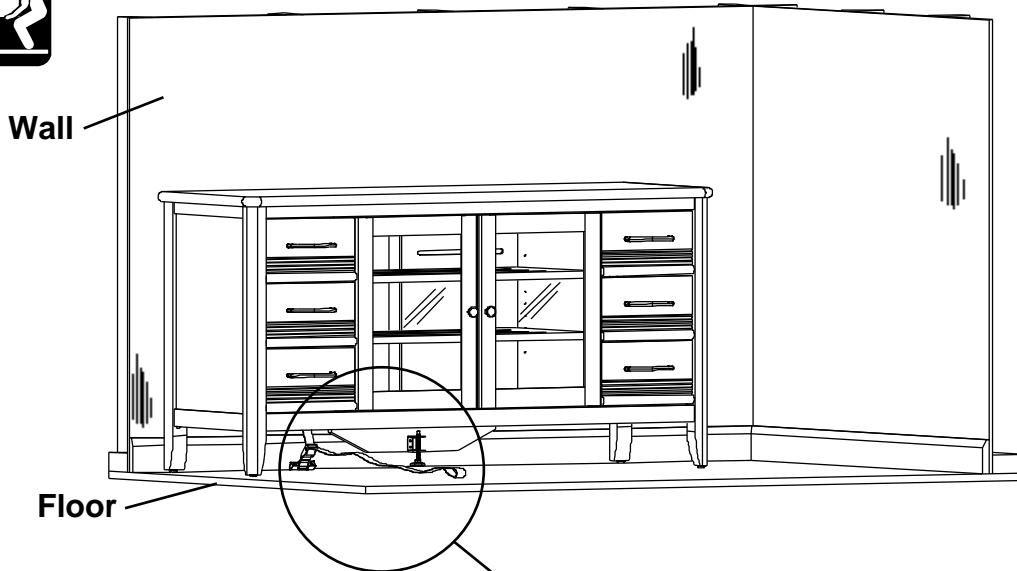

Fig. 9
9. Move the item back into position against the wall and reach underneath the piece of furniture to grasp the loop in the free end of the strap. Pull the free end of the strap until portion between the Cam Buckle (A) and the back apron of the item is tight. See Figures 9 and 9a. If you need to move the piece of furniture reach beneath and locate the buckle which connects the two sections of the strap and depress the release lever, then pull on the section of strap that is between the buckle and the back apron of the furniture until there is enough slack to allow you to pull the item away from the wall.